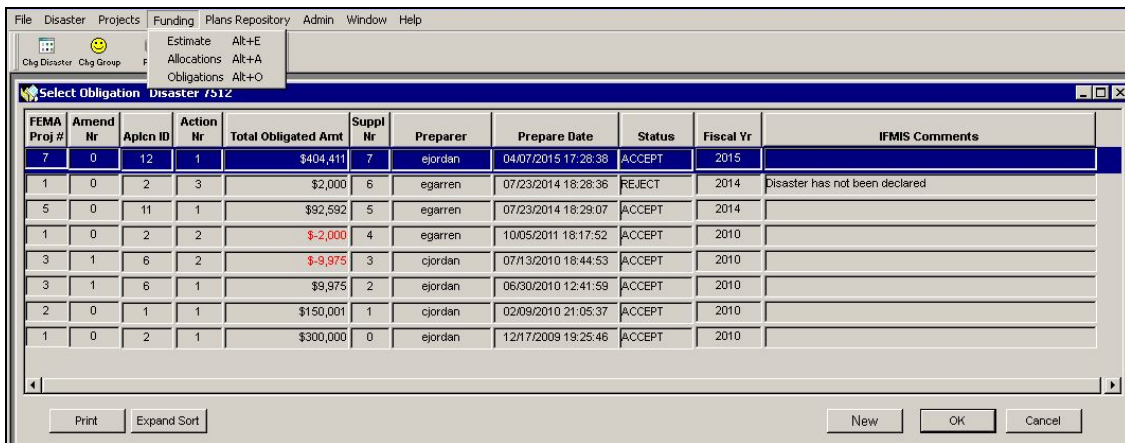

Figure 10-49: Mitigation > Funding > Obligations
1. On the MITIGATION menu, click on Funding > Obligations (Figure 10-49).